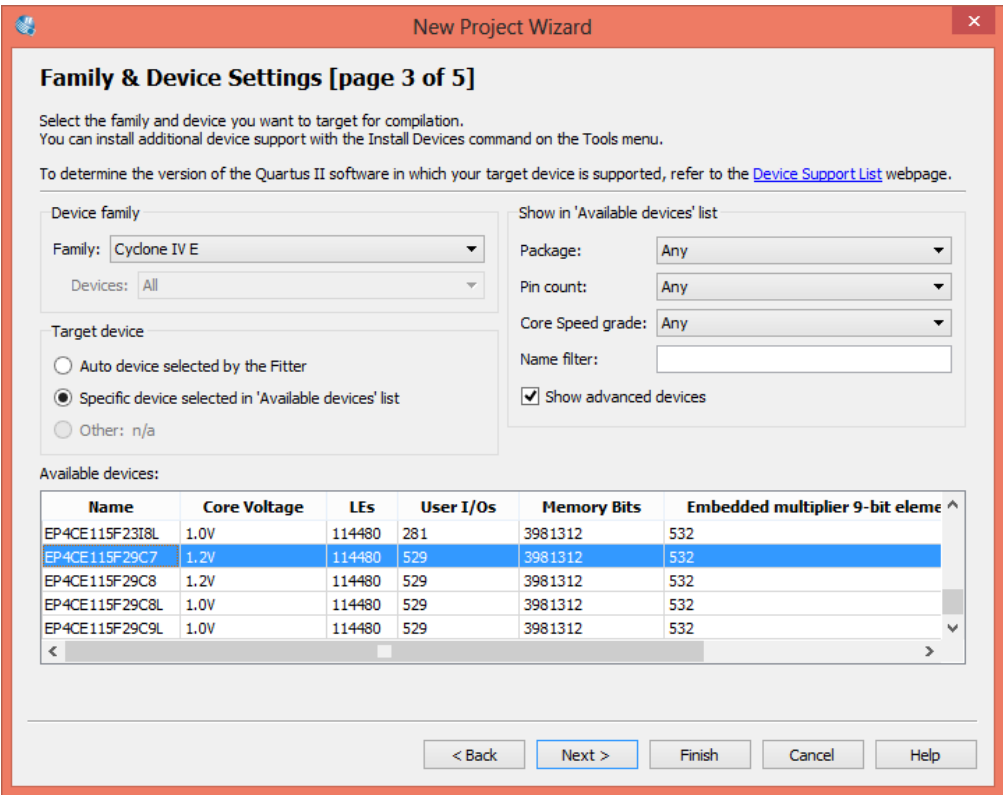

Figure 2
- On page 3, select **Cyclone IV E** for the device family, make sure the second option under Target device is selected, and chose **EP4CE115F29C7** in the available devices list. See Figure 2.